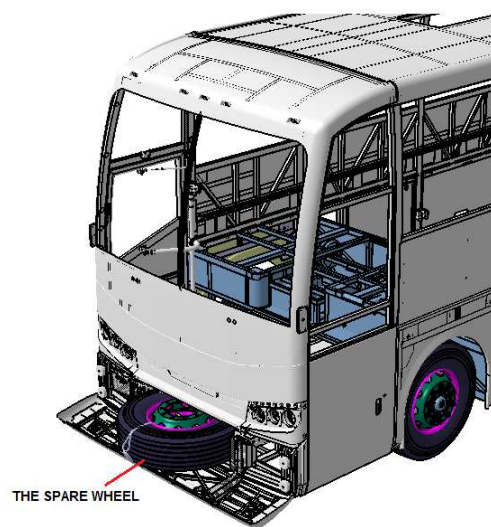

Figure-12
* Install the spare wheel to its room shown in Figure-12.